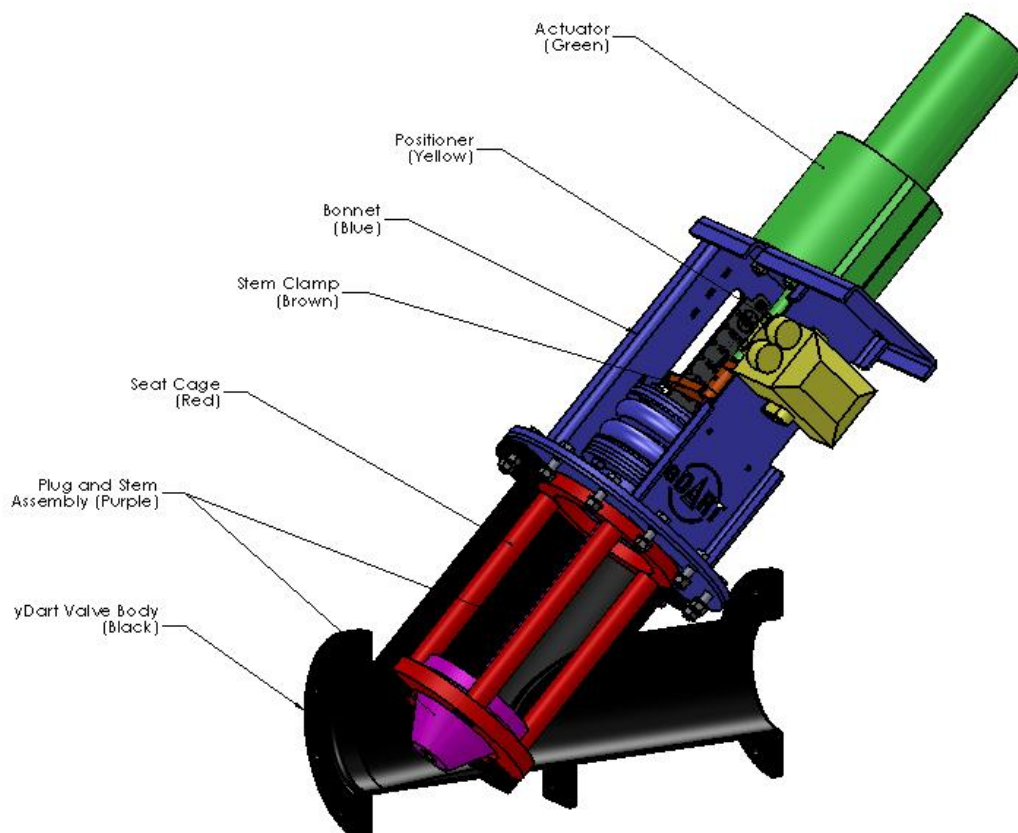

Figure 3: Major subassemblies of the yDart valve indicated in colour.
2. Remove the nuts and bolts on the removable bonnet (Blue Assembly in Figure 3), the bonnet with actuator (Green Assembly in Figure 3) and plug (Purple Assembly in Figure 3) still attached can now be pulled out of the valve body (leaving behind the seat cage (Red Assembly in Figure 3)).